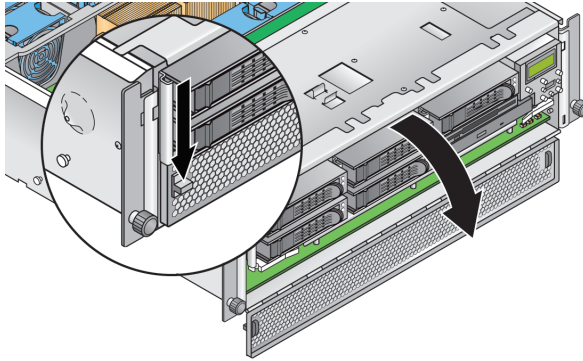

FIGURE 1-15 Opening the CPU Card Door
- e. Open the CPU card door, which is located under the hard drive bays, to access the CPU card. Press down on the two buttons on the door and swing it downward so that it is open 180 degrees from the closed position (see FIGURE 1-15).